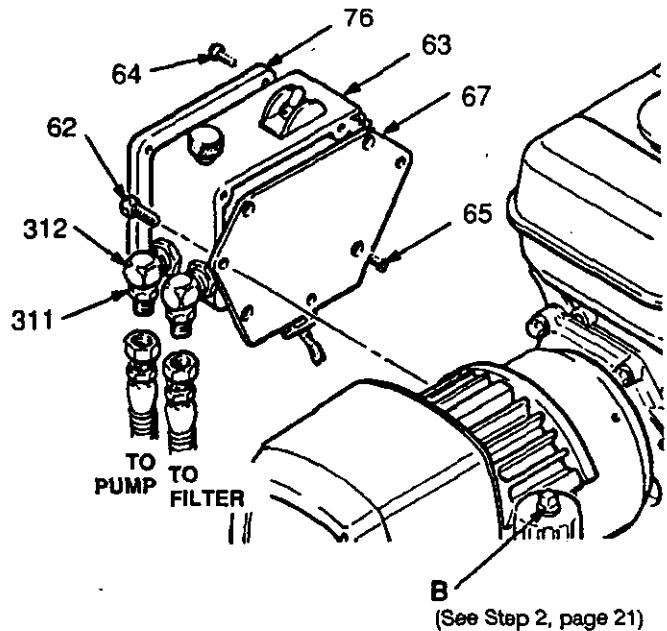

Fig 19-1
1. Disconnect both hoses at the pressure control (63), holding the hex of the nipple (311) firmly with a wrench to prevent turning the elbow. Take note of the original location of each hose to be sure you reassemble them correctly at the end of this procedure. See Fig 19-1.
3. Remove the pressure control cover and screws (76, 64). Remove the four screws (65) holding the bracket (67) to the pressure control. See Fig 19-1.
4. Remove the wire clamp (97) from the pressure control wires.
2. Connect the new 50 foot (15.2 m) spray hose to the sprayer outlet. On the other end of the hose, install the gun. Install the new spray tip (0.025 to 0.029 size) and tip guard on the gun. Install the fluid-filled pressure gauge in the top port (B - See Fig 19-1) of the fluid filter. Remove the pressure control cover.